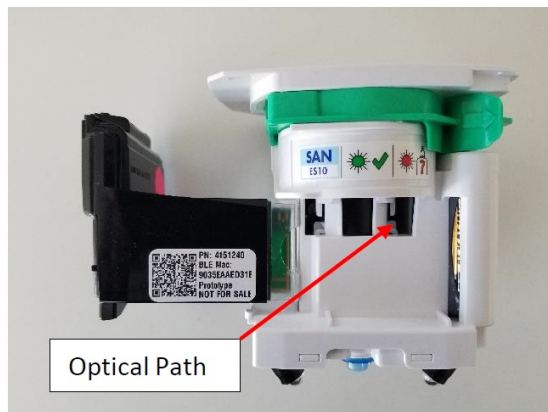

Figure 1 - ES10 Communications Module (left) and IPA (Right)
- This module mates with the ES10 Integrated Pump Assembly (IPA) to produce the optical alignment necessary to communicate with it via Infra-Red. See Figures 1, 2 below.